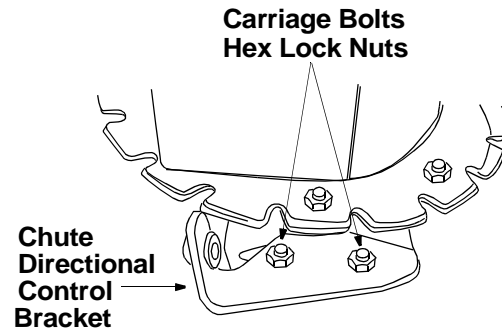

Figure 14
1. Loosen the two hex nuts which secure the lower chute directional control support bracket to the snow thrower housing. See Figure 14.